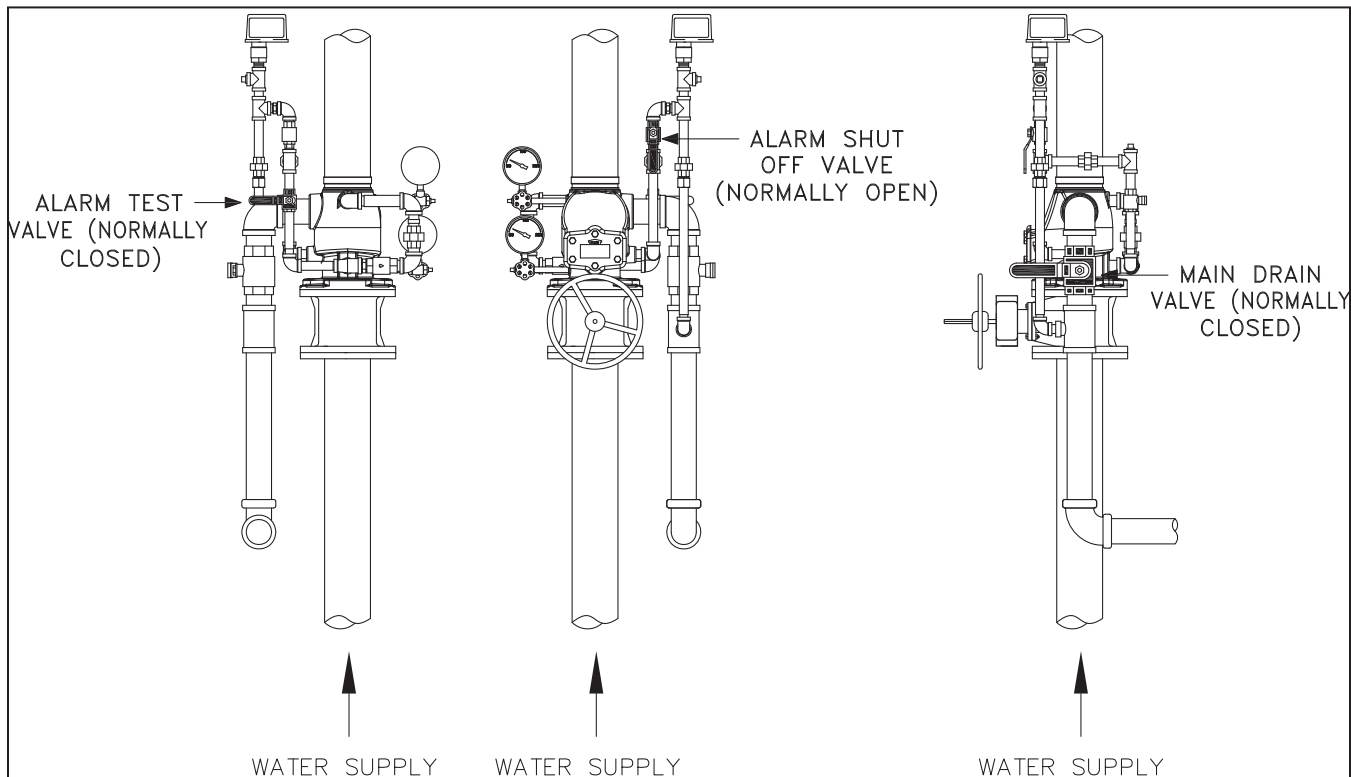

Figure 44
9. Verify that normal water supply pressure has been restored, and that all alarm devices and valves are secured in normal operating position (Figure 44).